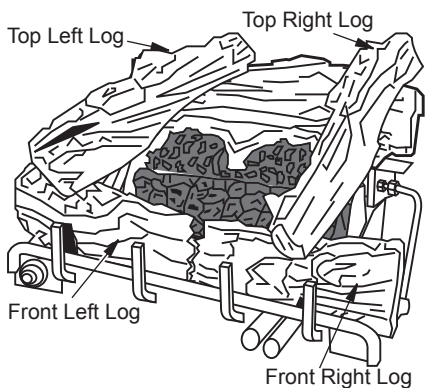

Figure 36 - Installing Logs
4. Place top left log as shown in Figure 36, page 21. The bottom of the log is shaped to fit onto the recessed areas of the front left log and the rear log. The recessed areas are painted yellow.
5. Place top right log as shown in Figure 36, page 21. The bottom of the log is shaped to fit onto the recessed areas of the front right log and the rear log. The recessed areas are painted yellow.